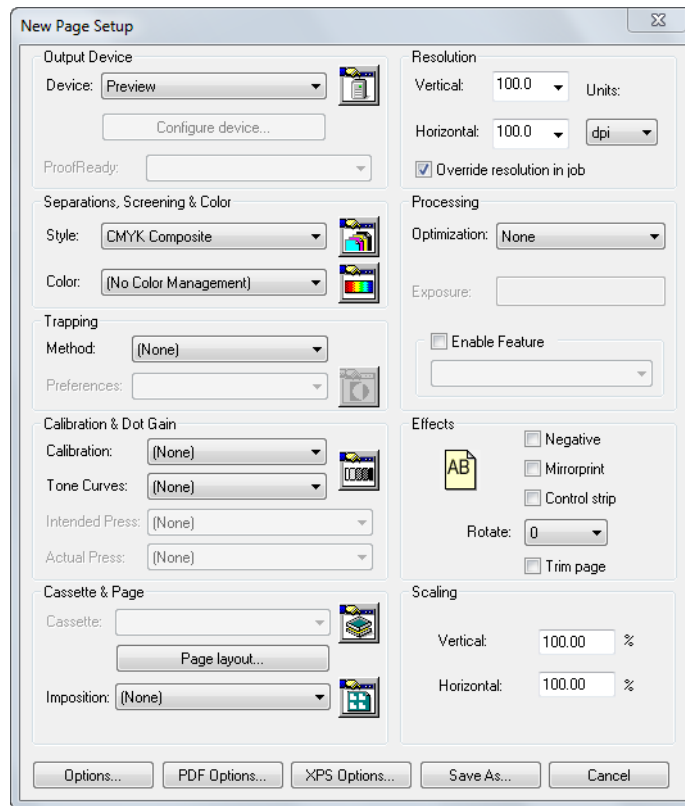

Figure 3.2 New Page Setup dialog box
3. In the Edit Page Setup dialog box, shown in Figure 3.2, set the **Device** to `None` and the **Vertical** and **Horizontal** resolutions to something small, say 72 dpi. If you change the **Device**, you must choose a separations style listed in the **Style** drop-down list and, for some devices, a cassette name from the **Cassette** drop-down list.
2. In the Page Setup Manager dialog box, select `Default Page Setup` and click **Copy** to display the New Page Setup dialog box. The New Page Setup dialog box is very similar to the Edit Page Setup dialog box, shown in Figure 3.2 on page 61.